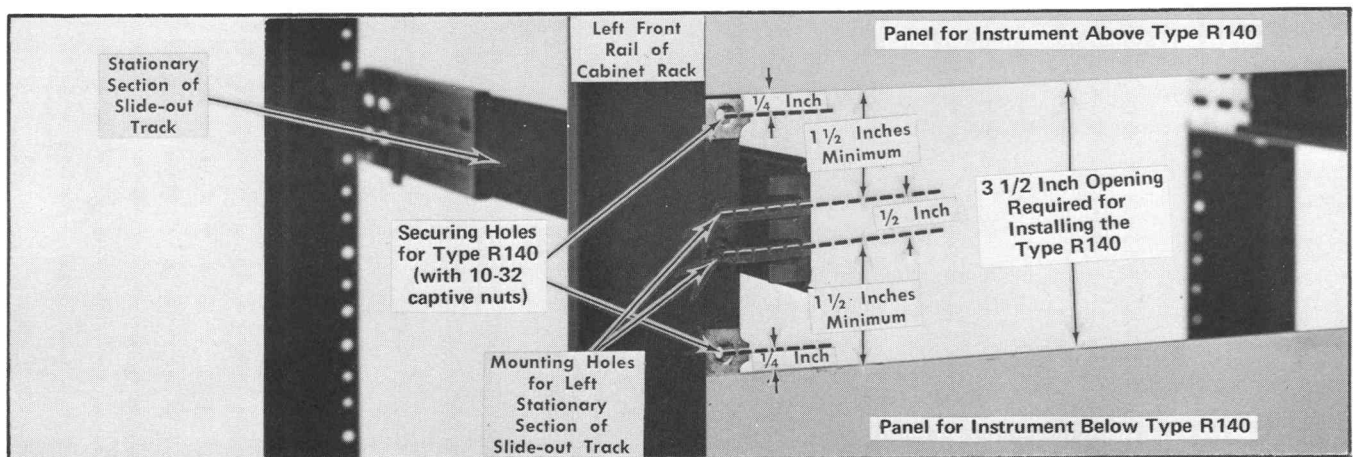

Fig. 6-5. Vertical mounting position of the left stationary section and location of the securing holes. These same dimensions apply to the right front rail.
Mounting Procedure—Use the following procedure to mount both sets. See Figs. 6-5 and 6-6 for installation details.
1. To mount the instrument directly above or below another instrument in the cabinet rack, select the appropriate holes in the front rack rails for the stationary sections using Fig. 6-5 as a guide.